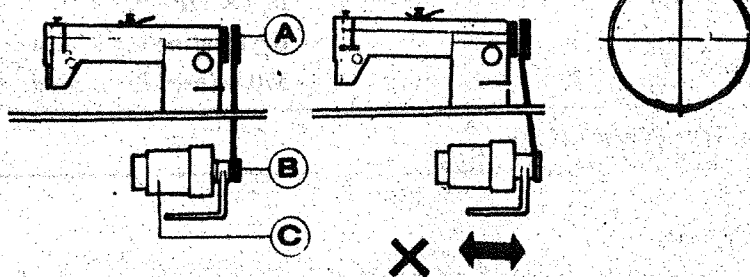

Fig. 4
5) Installing the motor (Fig. 4)